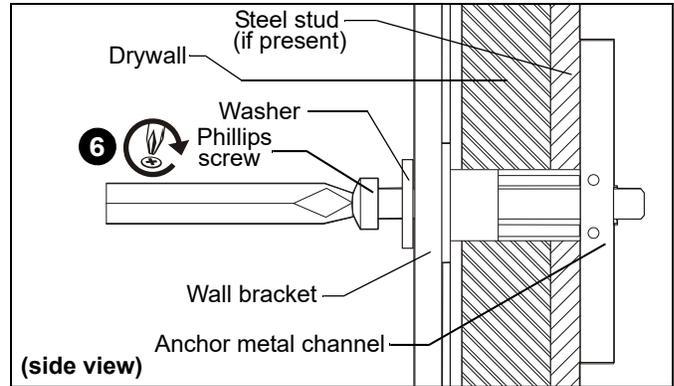

Figure 23
6. Insert 1/4-20 x 1-3/4" Phillips pan head screw through 1/4" washer, corresponding mounting hole in wall bracket and into anchor, and tighten until flush against wall bracket. DO NOT over tighten! (See Figure 23)